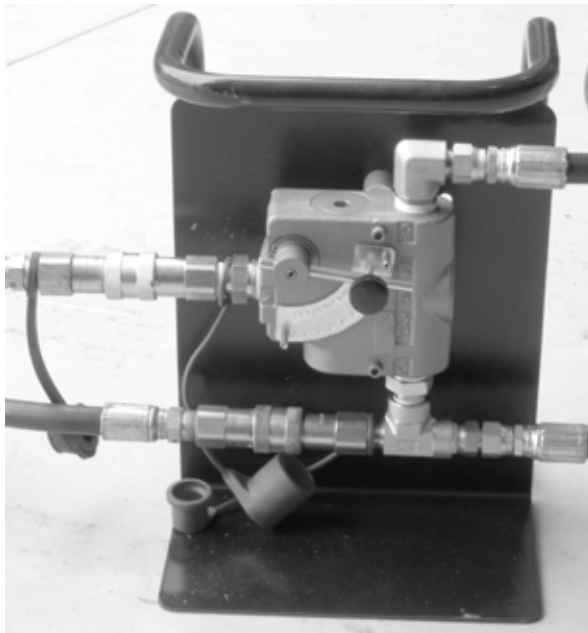

Figure 9-1. The flow control valve is used to set the cutting speed of the HDSF when there is no flow control on the hydraulic power unit.
- Speed control valve (for use with hydraulic power units without built-in flow control). See Figure 9-1.